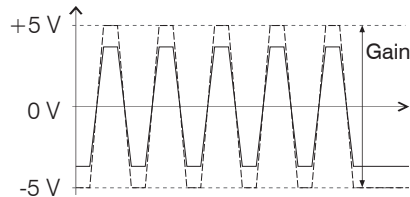

Fig. 16 Output signal on the controller, optimum gain adjustment
- ➡ Set the output voltage with potentiometer “gain” to the value of the desired voltage for full range (± 5 V), see Fig. 16.